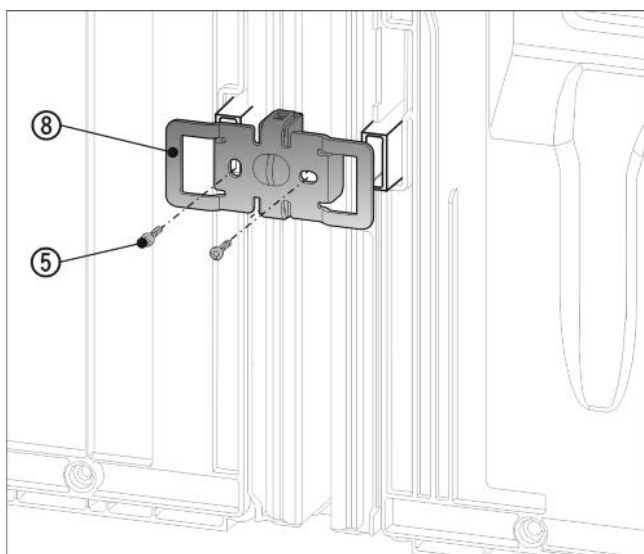

Fig. 12
- Slide the bracket Fig. 12 (8) on once more with the slots over the retainer for the wall spacers.
- Screw in tightly with the 2 screws Fig. 12 (5).